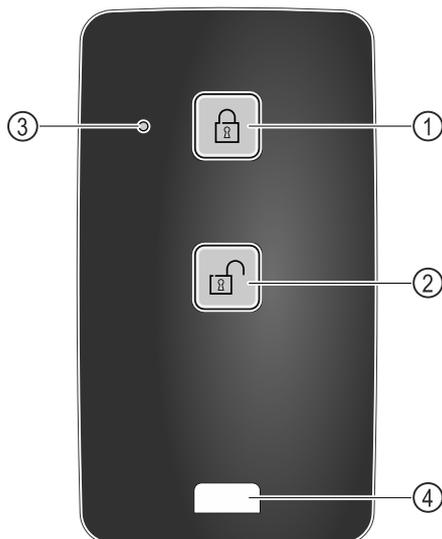

Fig. 249
- ▶ Press button Fig. 249 (1) on the remote control.
- ▶ Press button Fig. 249 (2) on the remote control.
- ▶ Status LED Fig. 249 (3) provides a visual acknowledgement when you press the button.
- ▶ Eyelet Fig. 249 (4) for attaching remote control, for example, to a key ring.